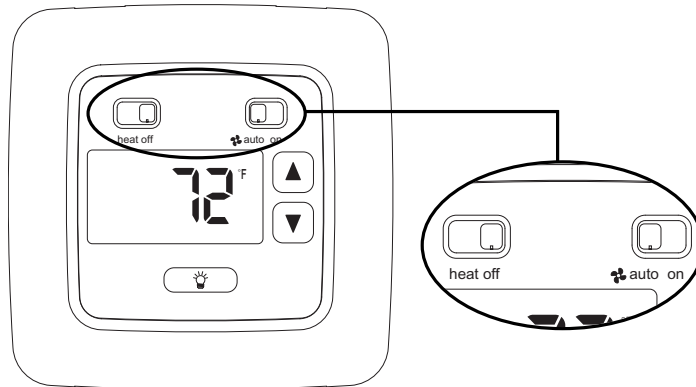

Figure 2
2. Place HEAT-OFF in OFF position (Figure 2).
3. Place  AUTO-ON switch into AUTO position (Figure 2).